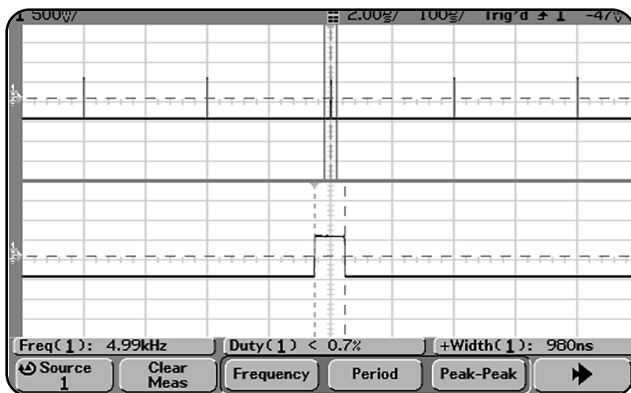

Fig. 2: Scope display showing a 1- μ s, 0.5 percent duty-cycle pulse
Step 4. Set the burst source to internal: With the 33120A, burst mode can be triggered either externally or internally. In this case, we will use the internally triggered burst mode. For a final time, press **Shift >** **Recall Menu**, then the right arrow (>) until BURST SOURCE appears in the display. Use the down arrow (↓) to verify that the burst source is set to INT (internal). You can set it to INT by turning the knob to zero (only one knob). Again, hit **Enter** to save this value. Check the output on an oscilloscope that shows an expanded scale (Fig. 2 shows how it should look). You will see that the readouts indicate that the frequency is 5 kHz, the pulse width is 1 ms, and the duty cycle is 0.5 percent, just as we desired.